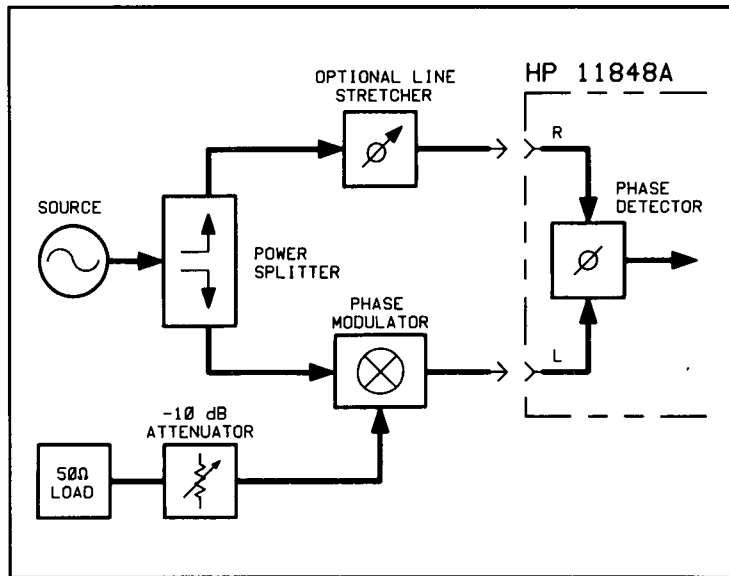

Figure 4-12. Calibration Setup
1. Connect circuit as per Figure 4-12, and tighten all connections.